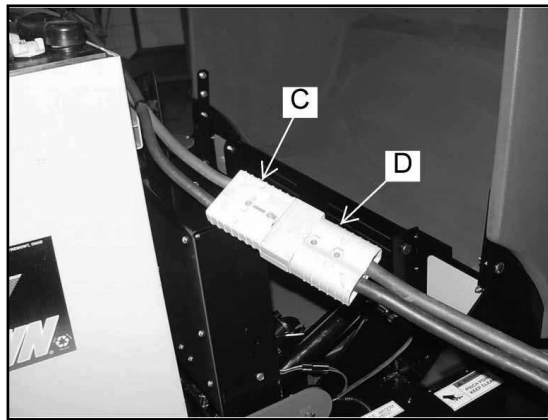

FIGURE 62
3. Fig. 62. Plug the battery power connector (C) into the battery charger (D).